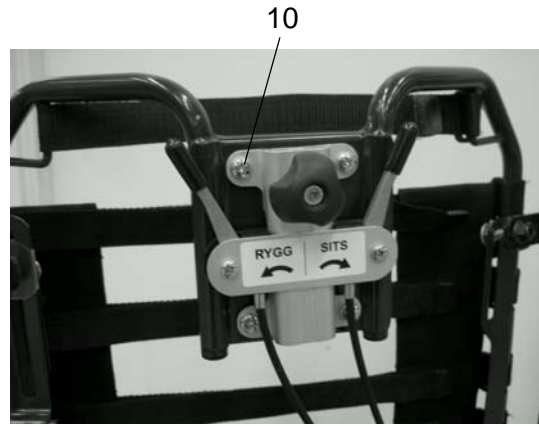

Figure 4
6. Secure the head support fastening as shown in Figures 4 and 5 using the accompanying screws (10) and nuts (11).